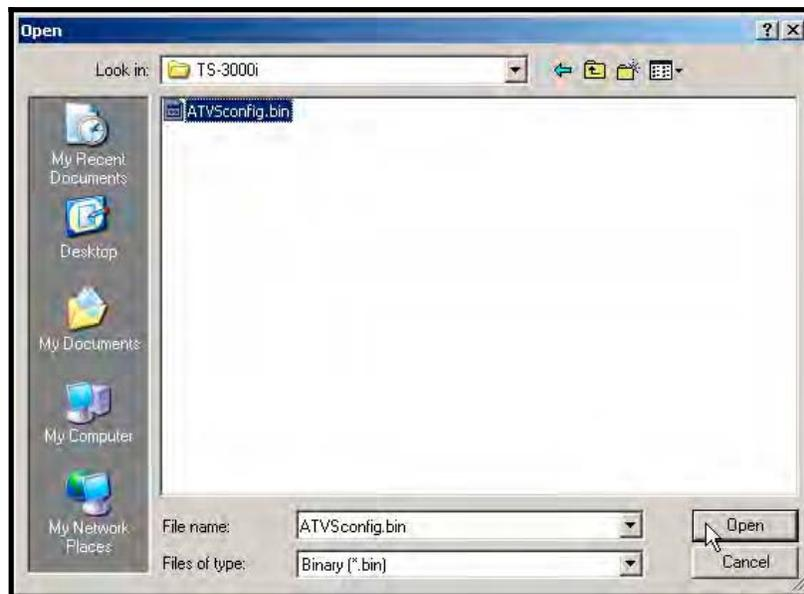

Figure 5-11: Windows Open Dialog
Step 2. Browse to select the shared clock file using the Windows Open dialog (see *Figure 5-11*). For example, this file could be a configuration file labeled “*ATVSConfig.bin*” and in this example, this file was previously created as a shared configuration file using the clock Backup Utility (see Chapter 4: Utility Settings for FTP Server). This “*ATVSConfig.bin*” file was created from a TS-3000i clock that was already configured via the web interface. In effect, what this utility is allowing you to do is to replicate the configuration of a previously configured clock to multiple clocks through the Update Configuration function.
Step 2. Browse to select the clock “*ATVSConfig.bin*” file using the Windows Open dialog (see *Figure 5-11*).